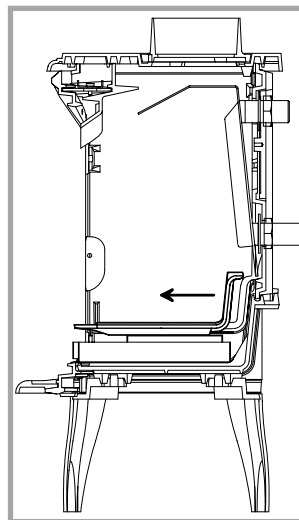

Figure 5
- Slide the grate forward (fig. 5).